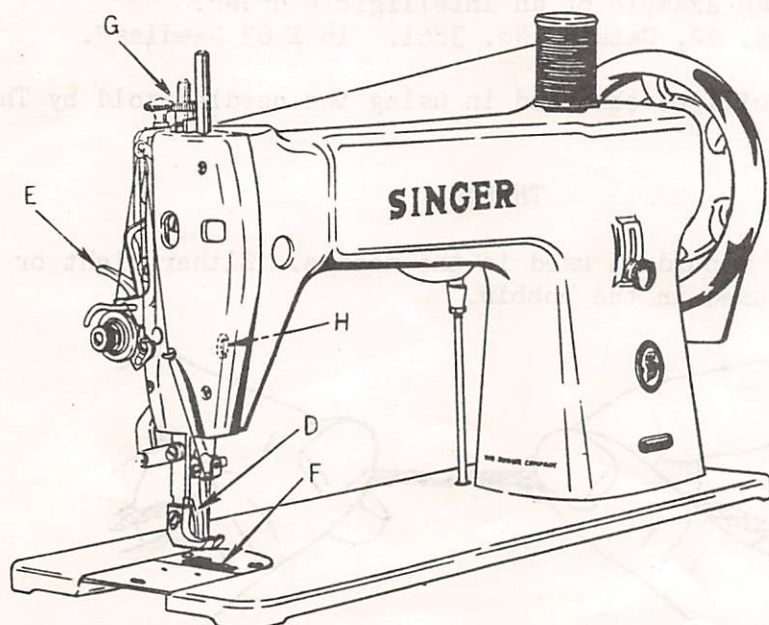

Fig. 5 Front View of the Machine
Raise the presser foot (D, Fig. 5) by means of the presser bar lifter (E, Fig. 5) to prevent injury to the foot (D) and feed (F, Fig. 5).
The pressure on the material is regulated by the thumb screw (G, Fig. 5, page 3) on the top of the machine. To increase the pressure, turn this thumb screw over to the right. To decrease the pressure, turn this thumb screw over to the left. The pressure should only be heavy enough to enable the feed to move the work along evenly.
If the eye of the needle is not the correct distance below the point of the shuttle, loosen the screw which fastens the needle bar in position in the needle bar connecting stud (V, Fig. 19). (This screw can be reached through the hole (H, Fig. 5, page 3) provided for the purpose in the arm). After loosening the screw, move the needle bar up or down in the needle bar connecting stud until it is at the required height, then securely tighten the screw.